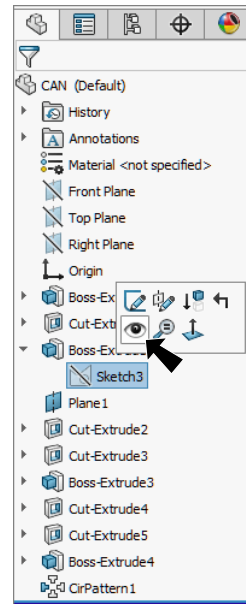

Fig. 95
Step 1. **Show Sketch3 in Boss-Extrude2.** To show, expand Boss-Extrude2 in the Feature Manager, click **Sketch3** and **Show**  on the context toolbar, **Fig. 95.**